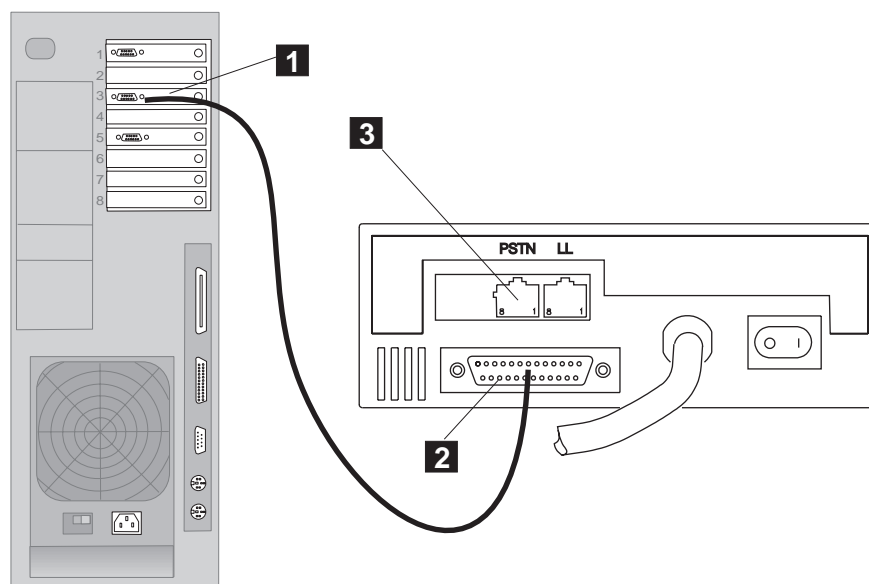

Figure 1-93. Connecting the Service Processor (9585) from the MPA Card to the 7855
- **9585**, refer to Figure 1-93.